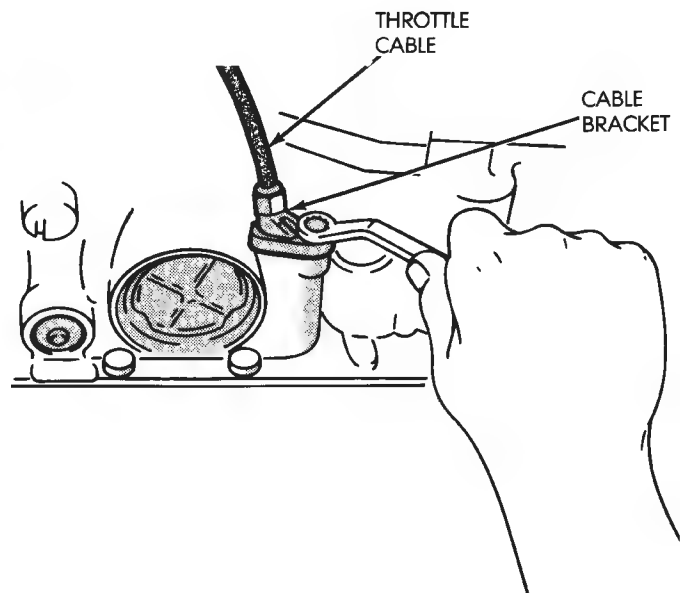

Fig. 43 Removing/Installing Transmission Throttle Cable And Bracket
- (5) Remove cable bracket bolt and remove cable and bracket from case (Fig. 43).
- (6) Remove and discard cable seal.
- (4) Install cable bracket on case and tighten attaching bolt to 10 N·m (7 ft-lbs) torque (Fig. 43).
- (5) Remove old sealer material from oil pan and transmission case. Clean oil pan with solvent and dry it with compressed air.